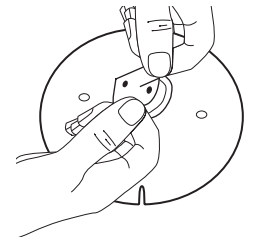

Figure 2
2. Adhere the label to the reverse side of the mounting plate, covering the hole. Slide the microphone wire through the slot in the label, then press the label firmly onto the plate (Figure 2).